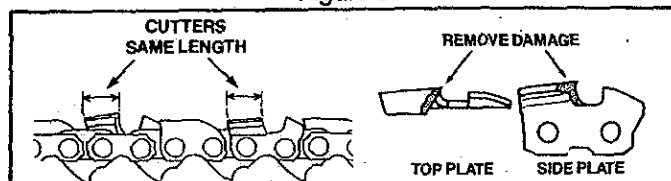

Figure 34
- d.) Keep all cutters the same length. Figure 34.
- e.) File enough to remove any damage to cutting edge (side & top plate) of cutter. Figure 34.